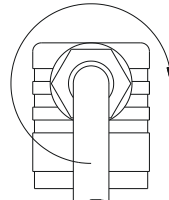

Fig. 9
- ↪ Press the core ⑧ into the cable socket ② until it locks into place.
- ↪ Put the central screw ⑥ in the cable socket ② and tighten the screwed cable gland ⑤ M16x1,5 (⇒ Fig. 9).